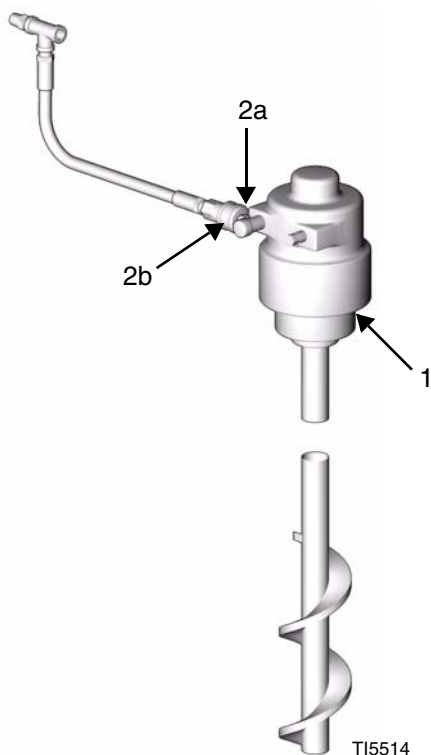

FIG. 3: Agitator Kit
- a. See FIG. 3. Install agitator (1) in drum.